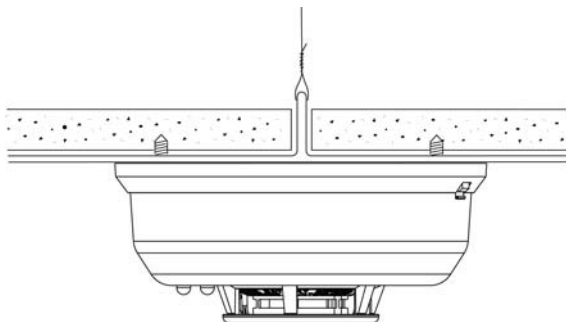

Figure 2 Mount the smoke detector across drop ceiling panel support
- To a drop ceiling panel; mount it to a metal runner as shown in figure 2.